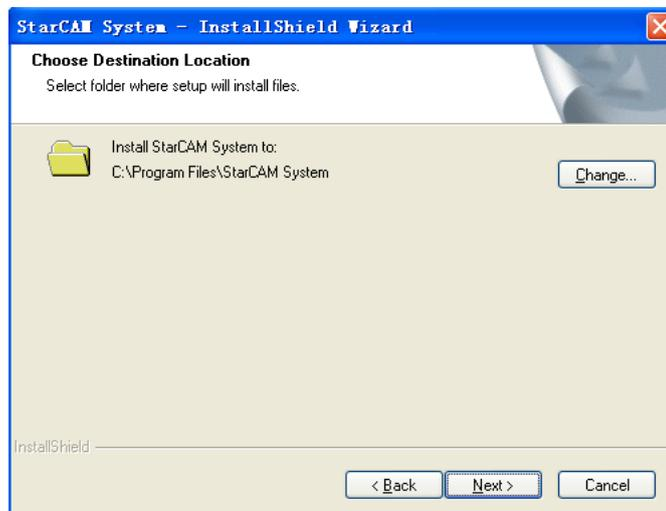

Figure 5
5. If selecting custom installation, users can install STARCAM system selectively, and then click the button “Next” to enter Figure 5.